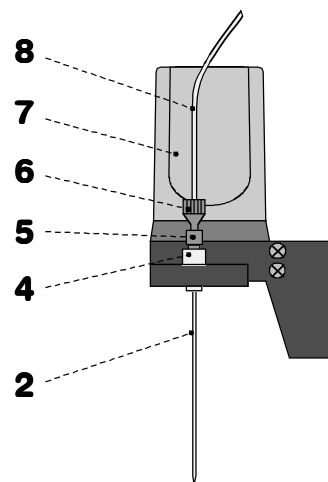

Fig. 6: Needle installation
- Screw the PTFE capillary **8** with the PEEK compression fitting on to the PEEK compression fitting **5** already mounted on needle holder **4** (see *Fig. 6*).